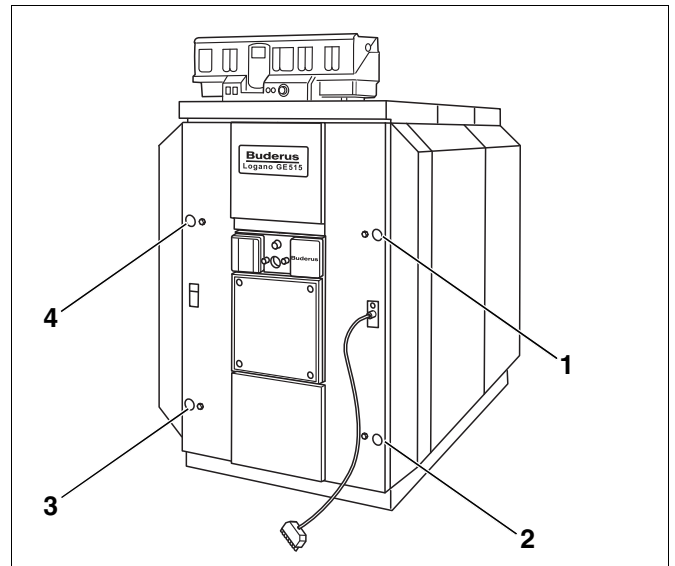

Fig. 71 Fastening the burner
- ▶ Undo the four machine screws that fasten the burner door to the front section (Fig. 71, [1] to [4]).